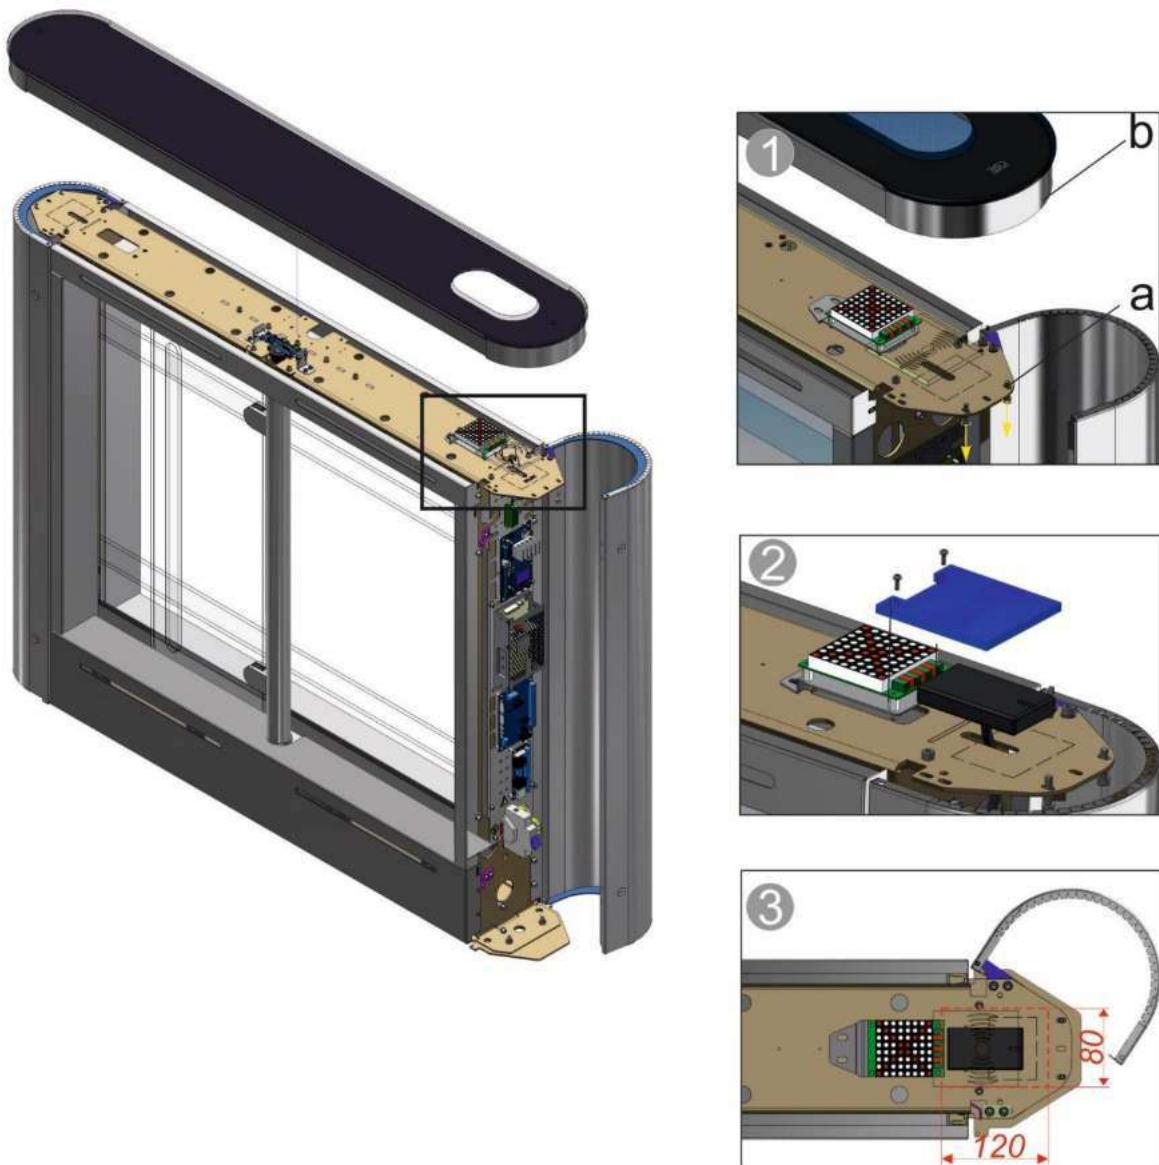

Fig. 23 – Installation of card reader into the turnstile cabinet
- The turnstile lid **b** (or glass top) to be removed by unscrewing screws **a** from frame (Fig.23);